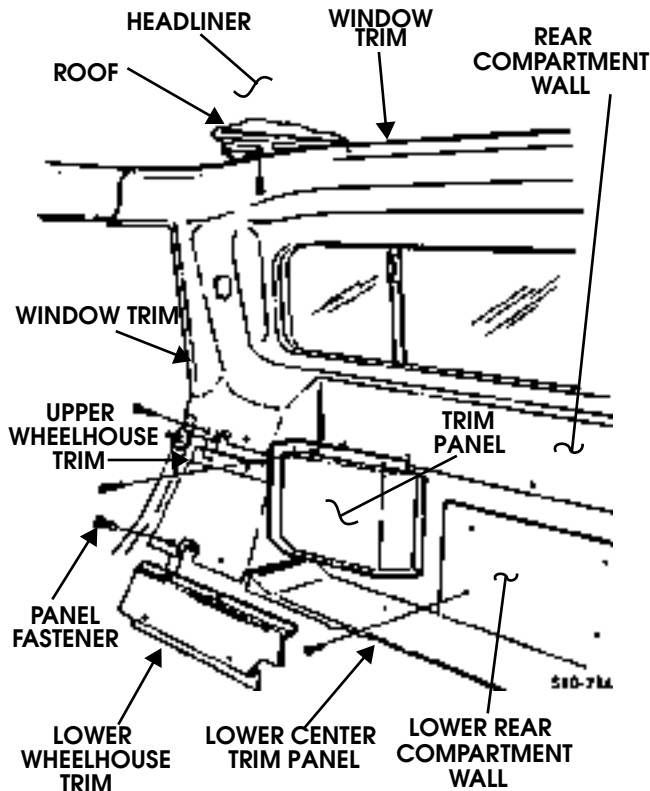

Figure 10-39: Four-Passenger Vehicle Interior Trim Component Identification
11. Remove screw/washer assemblies and trim panel from rear compartment wall (Figure 10-39)
1. Secure headliner to roof with panel fasteners (Figure 10-39).